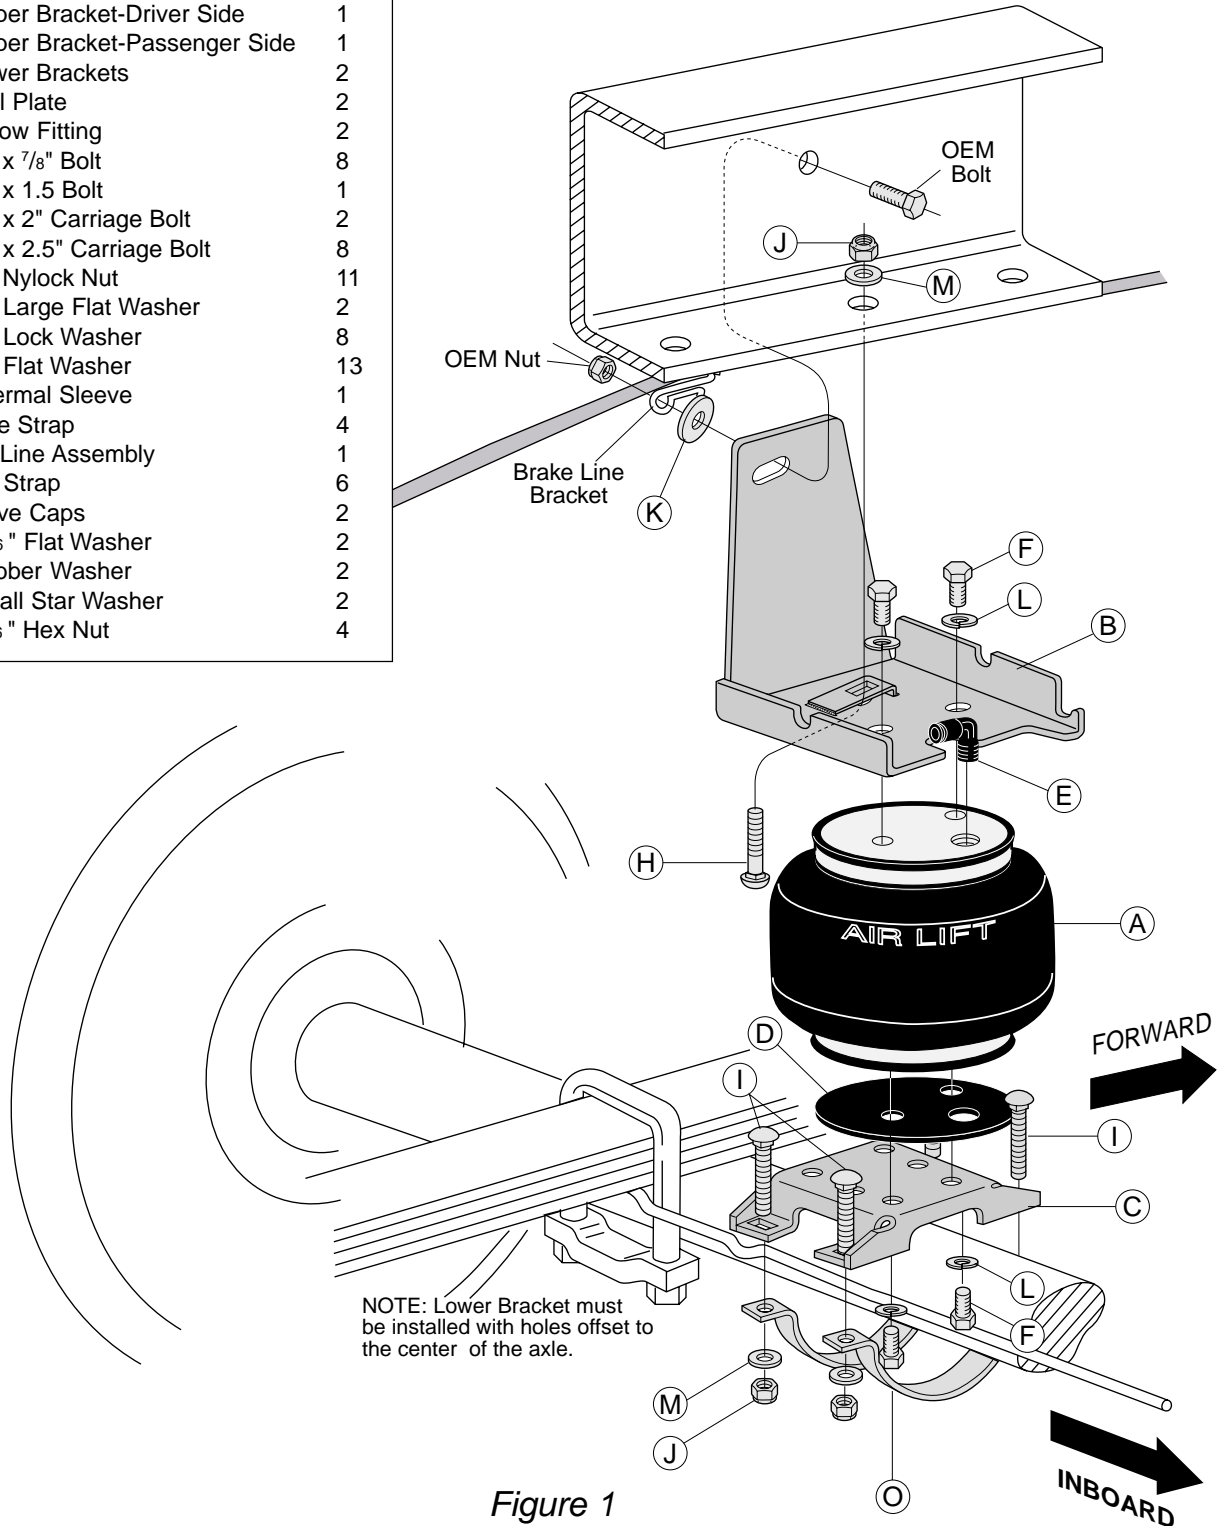
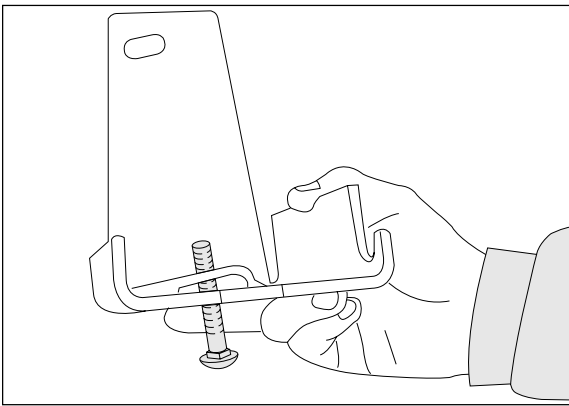

Figure 1
Figure 2
1. Install 90 degree air swivel fitting (E) to the top of the bellow. This fitting is precoated with sealant. Using an open-end wrench, tighten 1 and $\frac{1}{2}$ turns (Figures 1 and 3).
2. Insert a carriage bolt (H) up through the driver side upper bracket (B1). Refer to Figure 2.
3. Set bracket and carriage bolt assembly on top of the bellow. Attach with two bolts (F) and lock washers (L).
4. Set backer plate (D) on the bottom of the bellow (Figure 1).
1. Set the assembly in place by inserting the carriage bolt up through the jounce bumper hole (Figure 1). The bracket fits flush against the outside of the frame.
2. Attach the axle straps (O) to the lower bracket using washers (M) and nylock nuts (J). Refer to Figure 1.